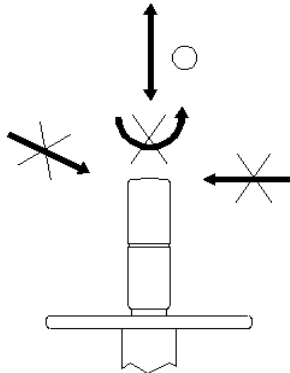

Fig. 3
- 3) Rotate the Sensing Head is prohibited. Some certain angles between Sensing Head & measuring object are not allowed (ref. Fig. 3).